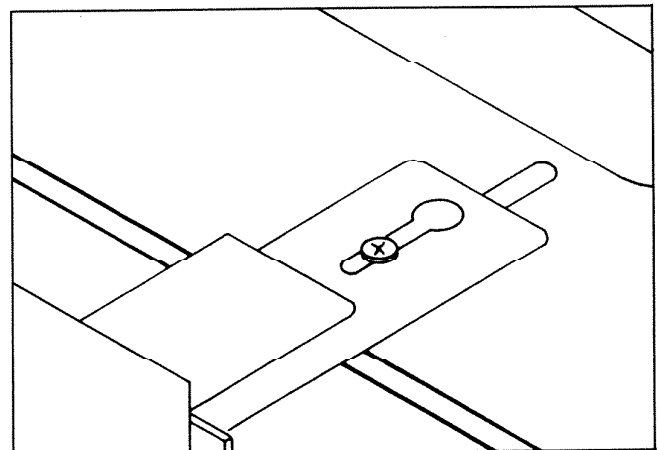

FIGURE 5
5. Slide one hinge toward inside of rough-in frame as far as possible and securely tighten the screw. Position and secure the second hinge. See Figure 5.